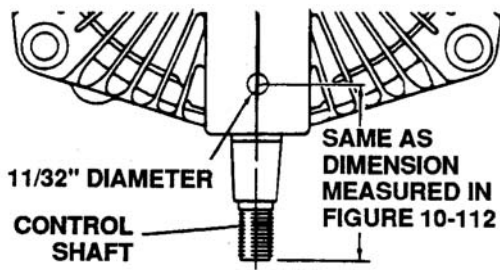

Figure 6-113. Locating Dowel Pin
- (2) Turn cover over. Use dimension obtained in step (1) to locate dowel pin in cover face. Drill 11/32 inch diameter access hole at center point of dowel pin. Drill hole exactly in line with center of shaft. See Figure 6-113.